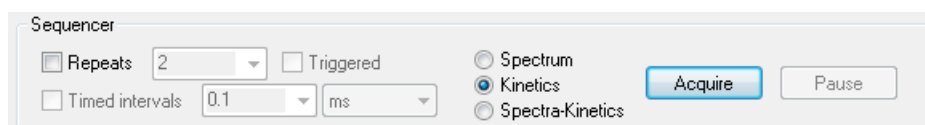

Figure 2-16: the Sequencer panel for fluorescence kinetics
4) Ensure that **Kinetics** mode is selected on the **Sequencer** panel (Figure 2-16).